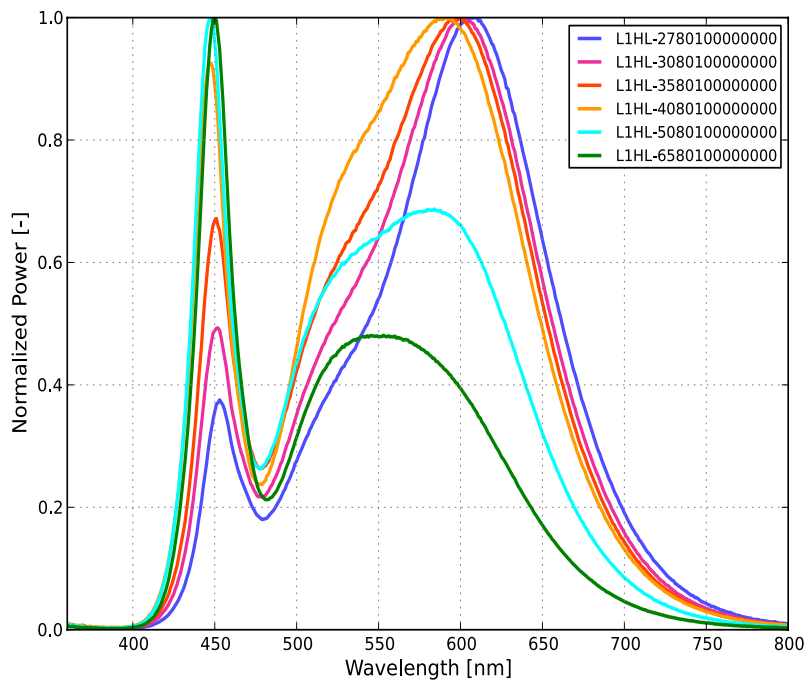

Figure 1. Typical normalized power vs. wavelength for L1HL-xx8010000000 at 350mA, $T_j=85^\circ\text{C}$.
1. Proper current derating must be observed to maintain the junction temperature below the maximum allowable junction temperature, as shown in Figure 1.